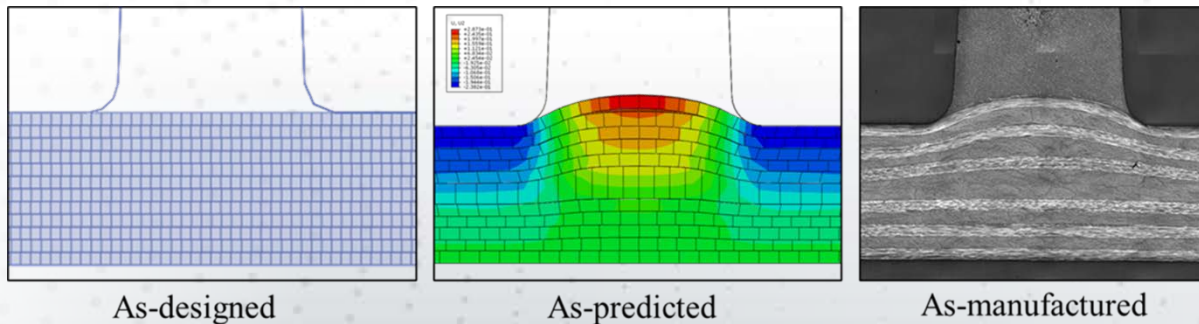

Fig. 6: As-designed, as-predicted, and as-manufactured overmoulded interface of a ribbed plate specimen [4].
- Component processability, Fig. 6.